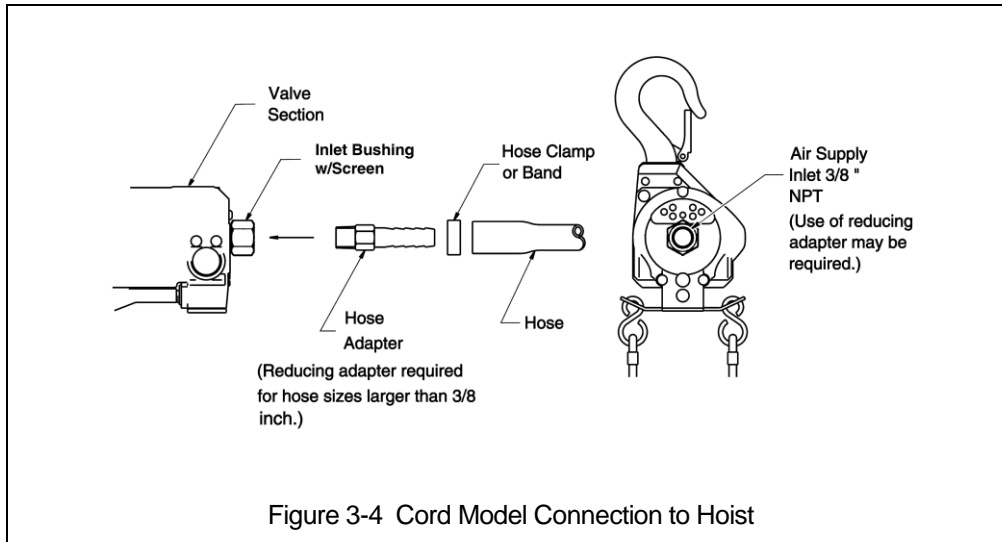

Figure 3-4 Cord Model Connection to Hoist
3.8.5 Make connections to air supply; reference Figure 3-4 or 3-5. Use a reducing adapter at the hoist valve section for hose sizes larger than 9.5mm (3/8").